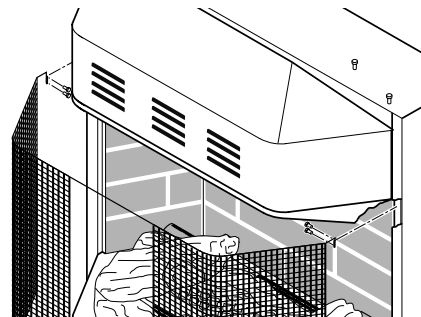
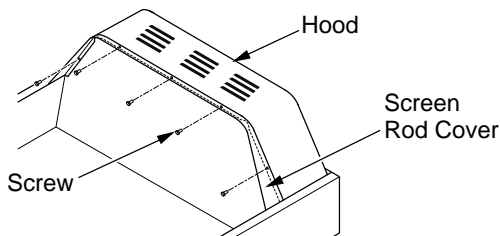
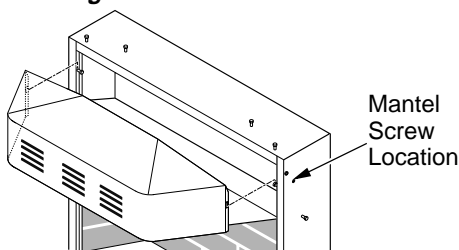

Figure 10 - Removing Screen
Figure 11 - Removing Hood Screws
Figure 12 - Removing Hood
2. Remove screen from fireplace by removing screws in each end of screen rod (see Figure 10). Hold screen rod cover while removing five hex head screws underneath hood (see Figure 11, page 10). Carefully lift and pull out hood (see Figure 12, page 10).
11. Attach remaining two 3" wood screws from hardware pack through openings inside of fireplace sides into the mantel. See Figure 12, for screw hole location.